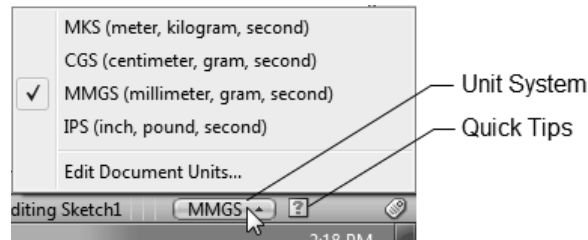

Figure 3-3 The Unit System flyout
1. Click on the **Unit System** that is located next to the **Quick Tips** in the Status Bar; a flyout is displayed with a tick mark next to the unit system of the current document, as shown in Figure 3-3.